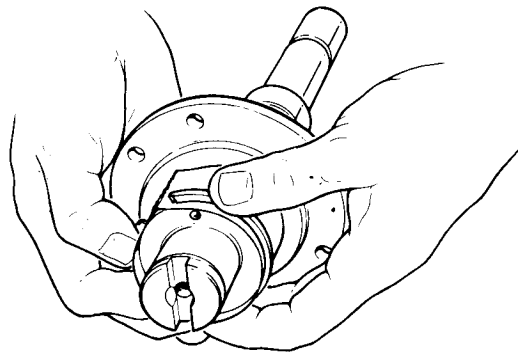

Fig. 14. Piston Ring Fitting Procedure
5. Where a loading tool is not available use a thin metal strip, long enough to lay along the shaft above the grooves. Expand each ring just sufficiently to allow it to be placed in its approximate position over the strip. Gently withdraw the strip and locate the rings in their respective grooves. (see Fig. 14).